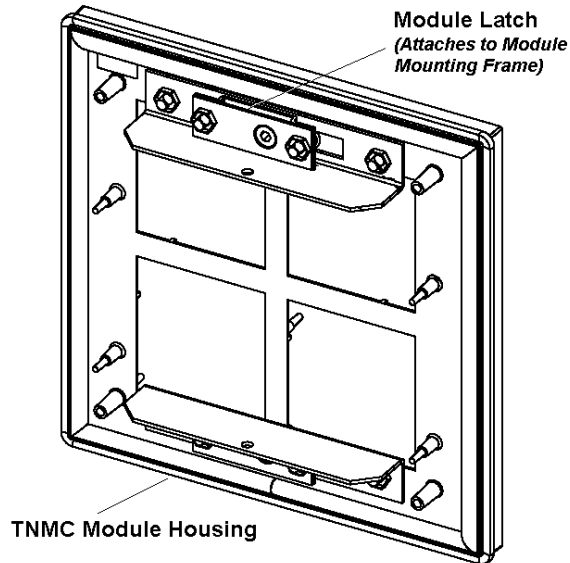

Figure 21: TNMC Module (Rear View)
2. Unlatch the latch fasteners, illustrated in **Figure 21**, by turning them a quarter-turn using a $7/32$ " nut driver. Turn the top latch clockwise and the bottom latch counterclockwise.